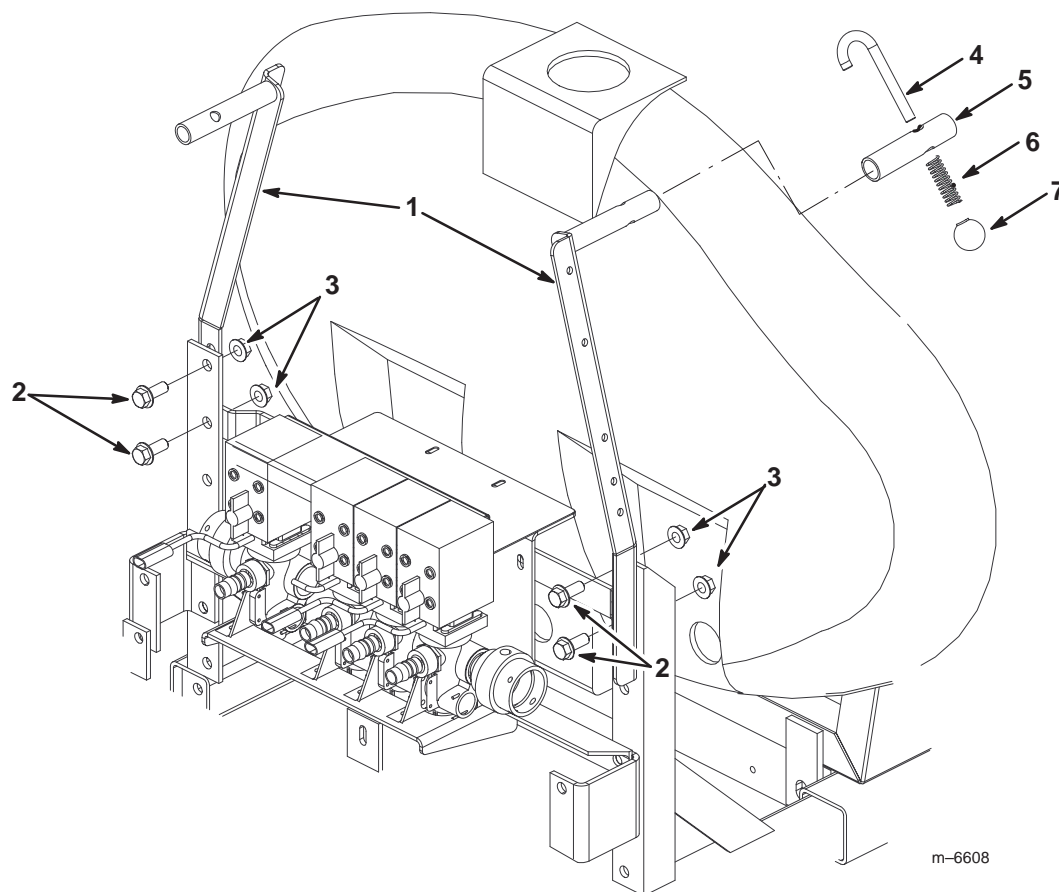

Figure 1
2. Install the 2 boom holders as shown in Figure 1, using 4 bolts (1/2 x 1-1/4 inches) and 4 flange nuts (1/2 inch). Do not tight nuts completely
3. Install the boom holder sleeve over the boom holder as shown in Figure 1. Position the sleeve over the holder so that the openings are aligned.
1. Manually place grease on the support shaft and within the ball seat of the hinge plate as shown in Figure 1.
2. Grease the fitting located below the spring until grease can be seen coming out of the bottom of the pivot assembly (Fig. 1).